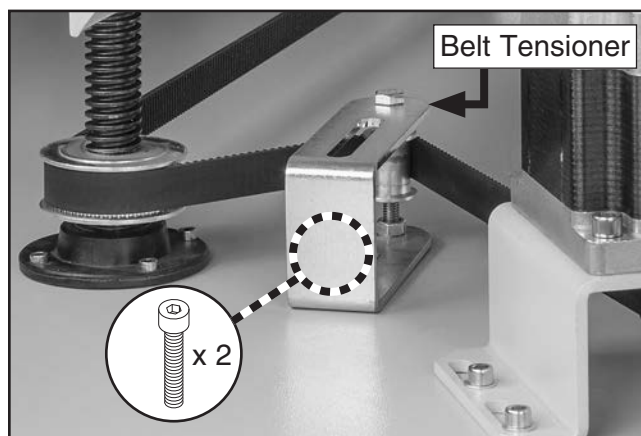

Figure 93. Z-axis belt tensioner components.
16. Push belt tensioner towards belt, and then secure (2) cap screws (see **Figure 93**).